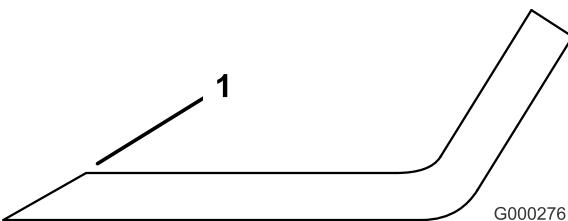

Figure 80
1. Use a file to sharpen the cutting edge at both ends of the blade (Figure 80).